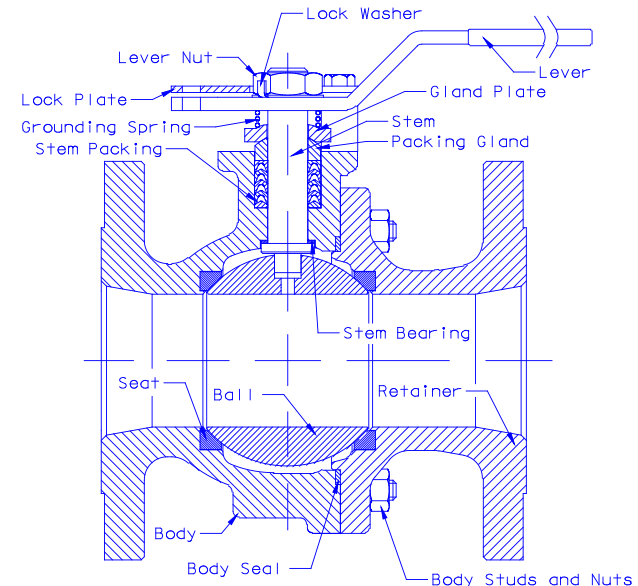

Figure 1: Typical Standard Port Assembly
- **Standard & Full Port only** Insert the retainer seat and place the retainer on the body. The ANSI flange bolting will always straddle the valve centerlines. See Figure 1. Loosely assemble the body bolting nuts.